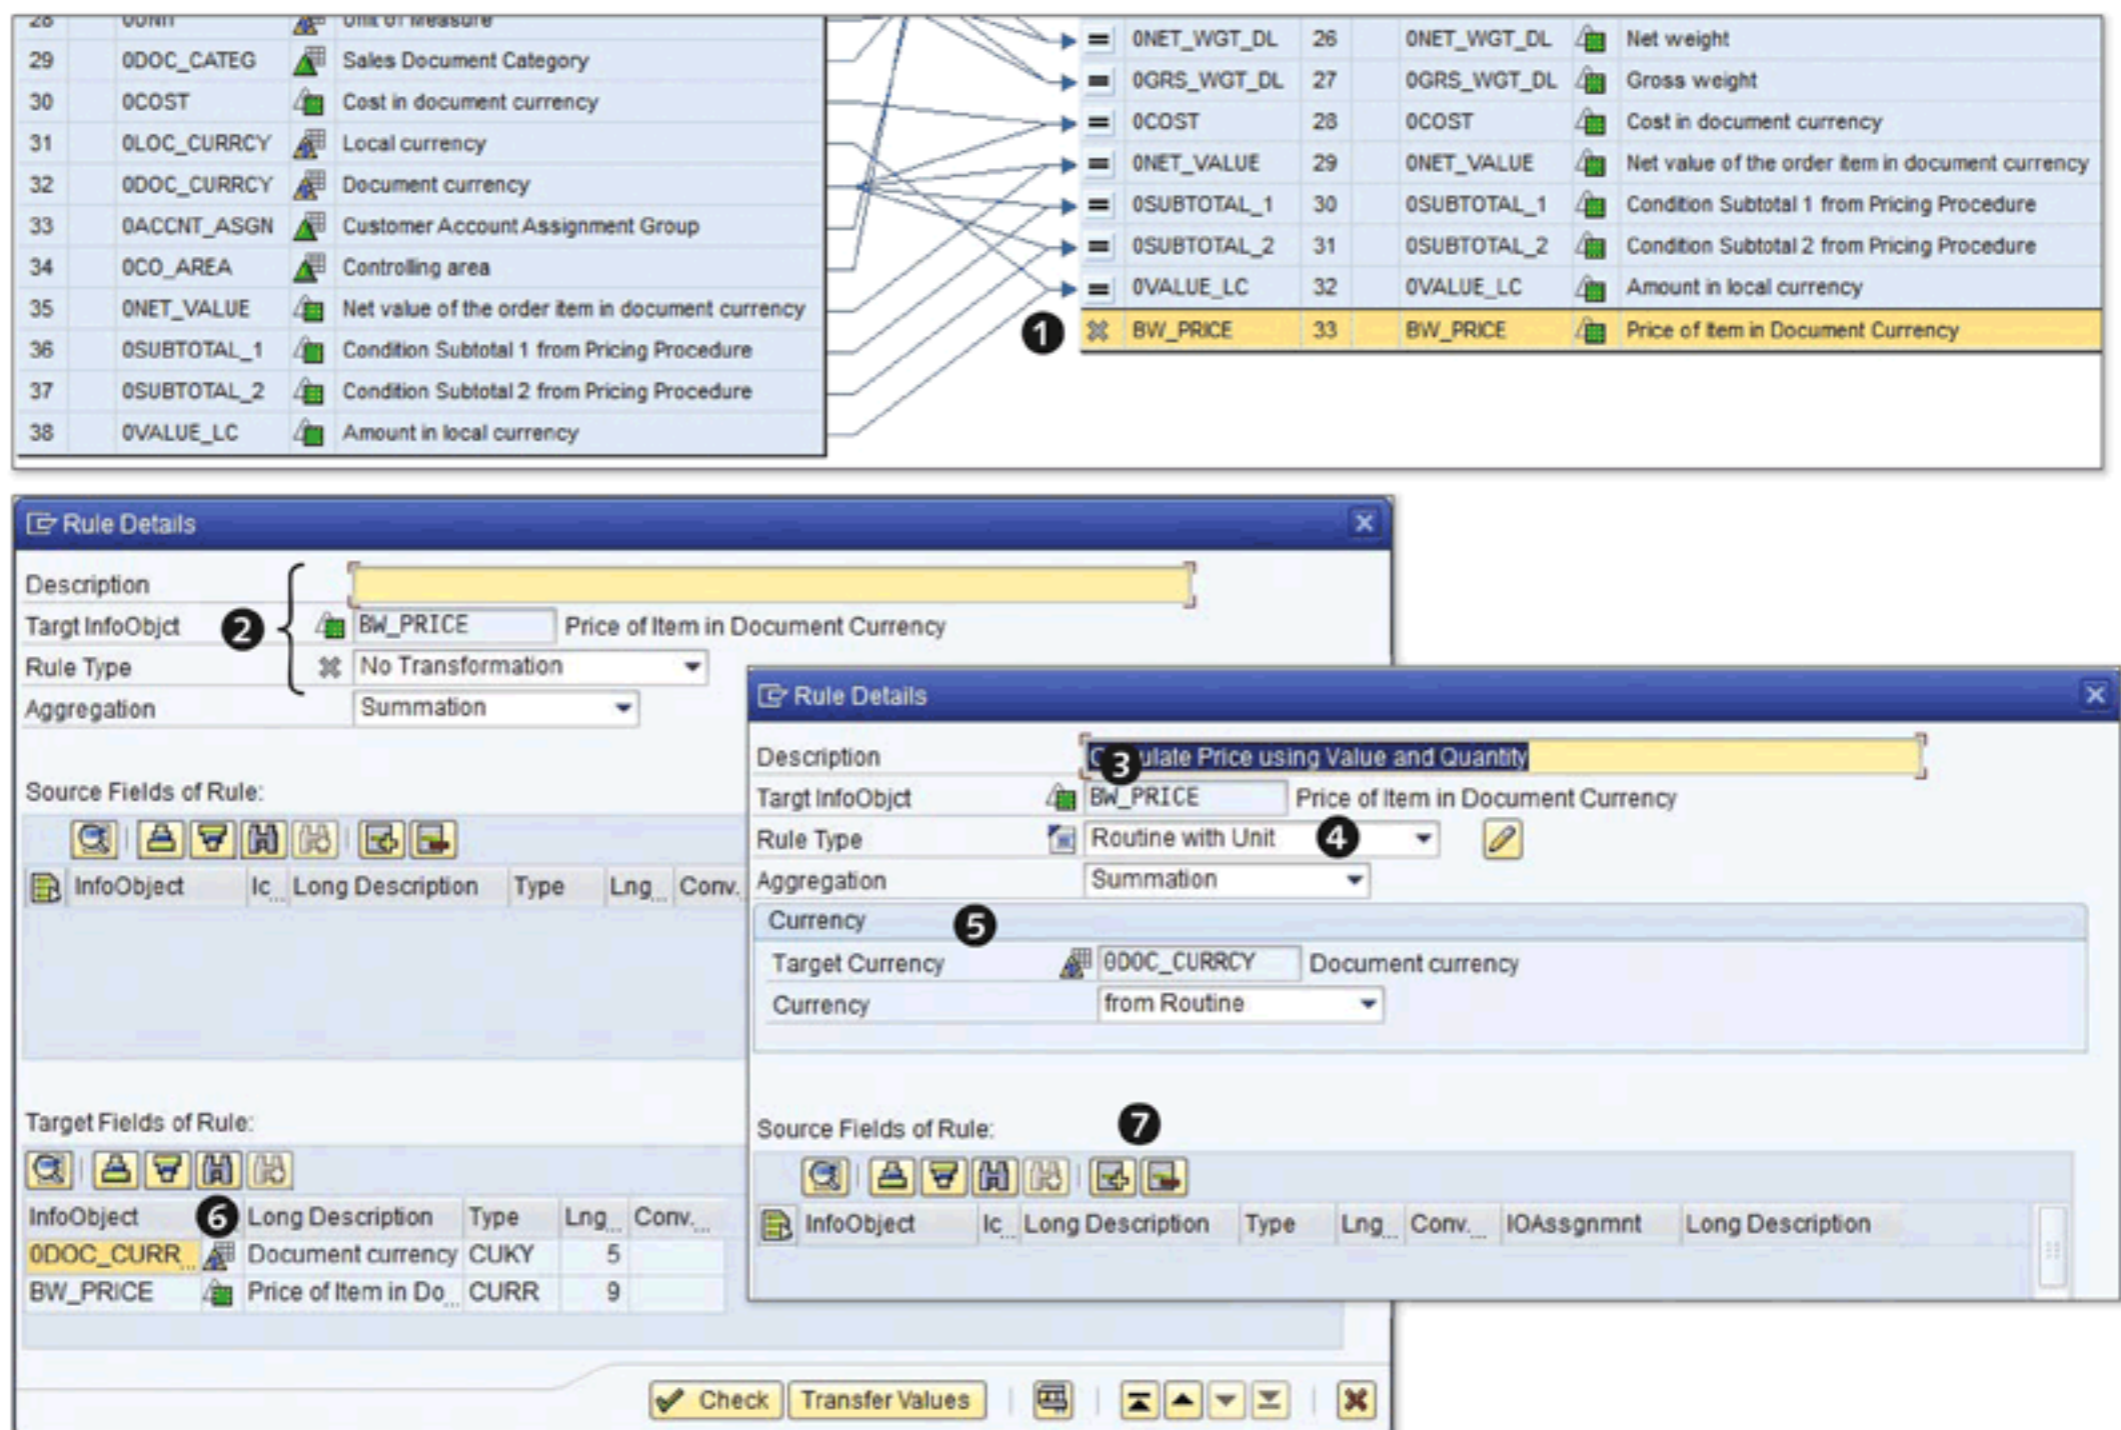
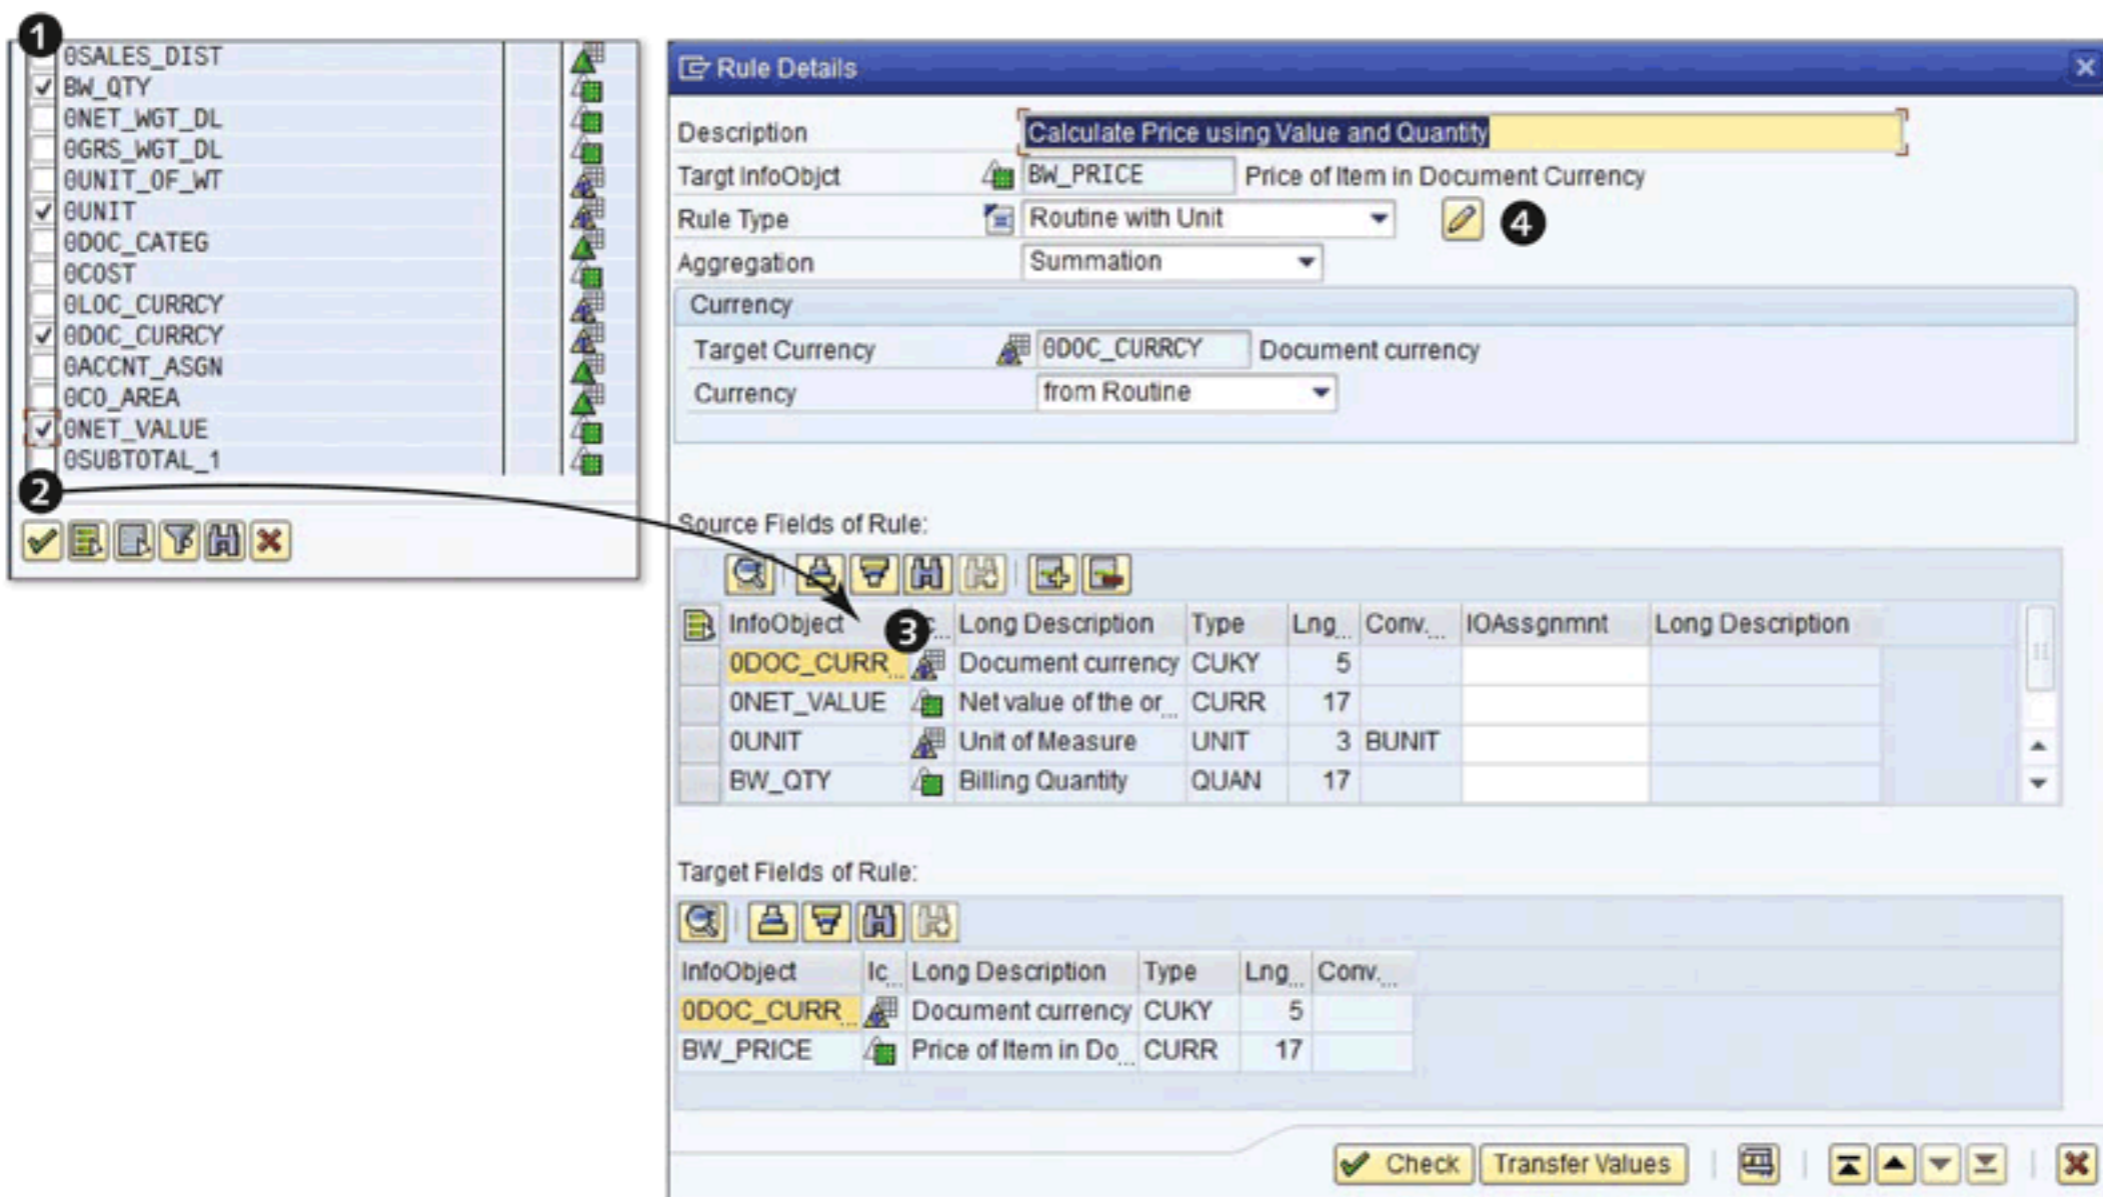

Figure 7.73 ABAP Routine Transformation Type: Part 1
Figure 7.74 ABAP Routine Transformation Type: Part 2
Our example InfoCube has a BW_PRICE key figure (indicating the price of an item in the document currency), as shown in ❶ of Figure 7.73. The DSO that acts as a DataSource doesn't have any key figures that match BW_PRICE, so we must derive the value of this key figure using values from ONET_VALUE and BW_QTY by an ABAP code program. This type of transformation is known as a *routine transformation*. We could alternatively meet the same requirement using a formula transformation type.
Open the RULE DETAILS pop-up box by double-clicking on BW_PRICE, as shown in ❶ of Figure 7.73. The InfoObject and rule type are displayed (❷). (Unlike DSOs, InfoCubes don't allow overwriting; aggregation only offers summation.) Enter an appropriate description (❸). Because this key figure has a currency associated with it, we use the ROUTINE WITH UNIT transformation type (❹); this results in the
Because we need to use the values of ONET_VALUE, BW_QTY, and ODOC_CURRCY in the ABAP routine, click on the icon shown in 7 of Figure 7.73. This action results in the pop-up box shown in 1 of Figure 7.74. Select InfoObjects BW_QTY, OUNIT, ODOC_CURRCY, and ONET_VALUE, as shown in 1 of Figure 7.74. Click on the CONTINUE icon (2), and you can see that the selected fields are available under SOURCE FIELDS OF RULE (3), making them available for use in an ABAP routine for any calculation.